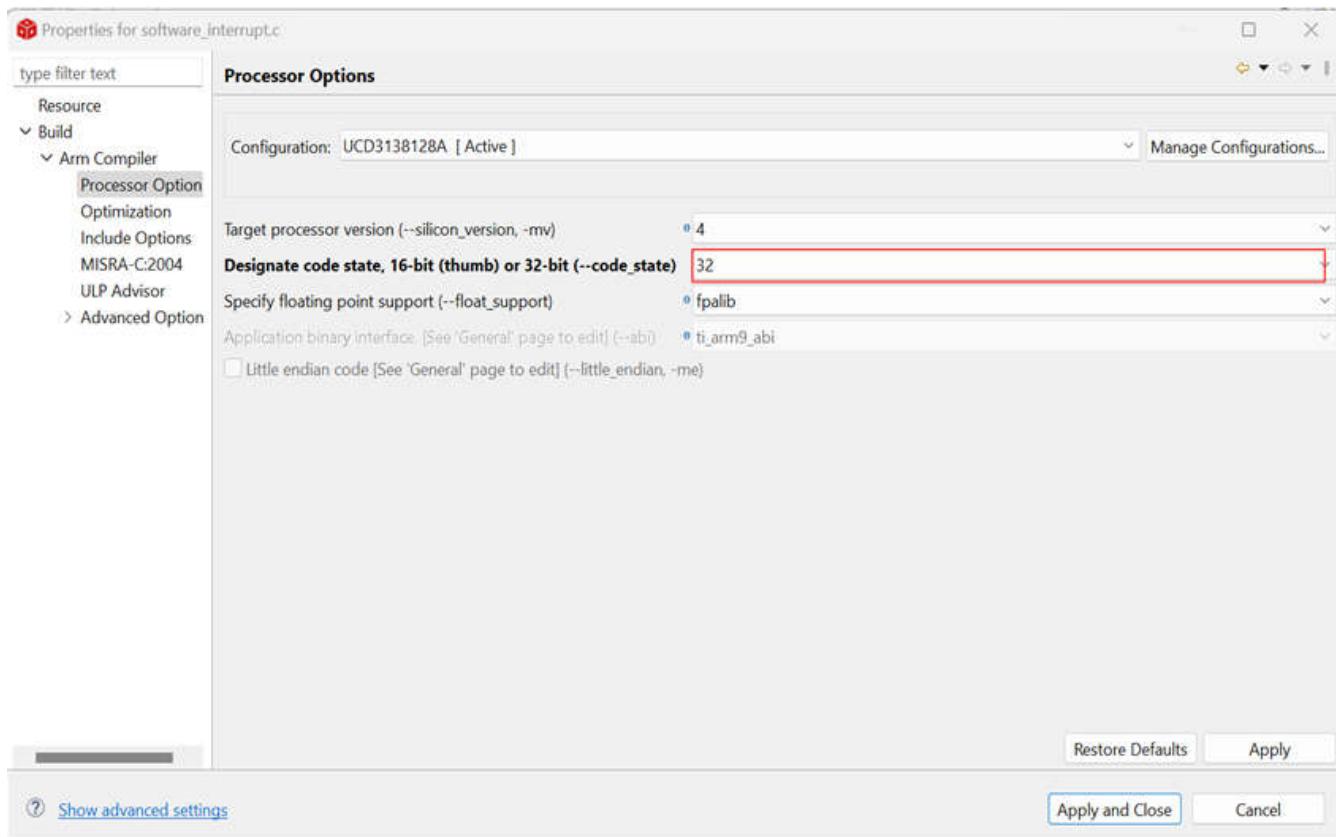

Figure 2-5. Setting the Designate Code State to ARM 32-Bit Mode for Interrupt Handler Compilation
1. Configure files "standard_interrupt.c", "software_interrupt.c", and "interrupts.c" to be built in ARM mode. For example, to configure the entire "software_interrupt.c" file to be built in ARM mode, as shown in Figure 2-5, follow the steps below to complete the configuration. Open the *Project Explorer* pane, right-click "standard_interrupt.c", go to *Properties -> Build -> ARM Compiler -> Processor Options*, and select "32".